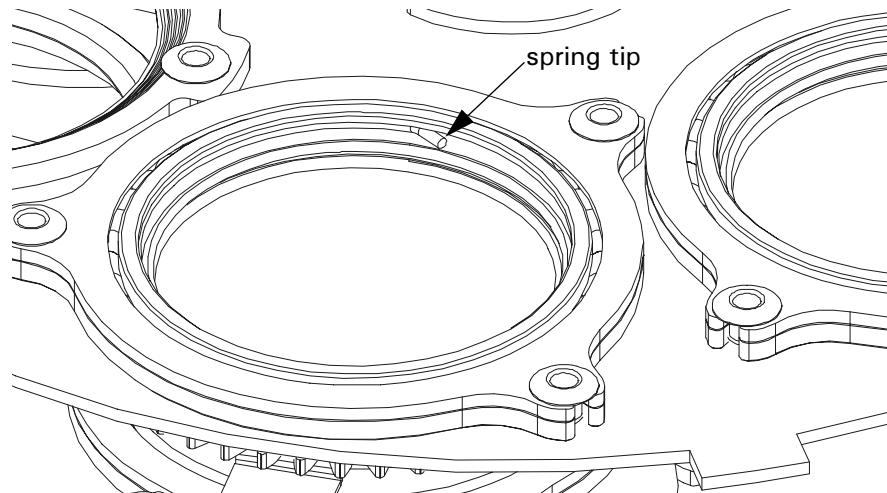

Figure B-11. Removing the Securing Spring
6. Locate the spring securing the litho or effect to the wheel. Pull the spring tip towards the center of the aperture. Refer to Figure B-11. The spring will release from its groove inside the aperture.